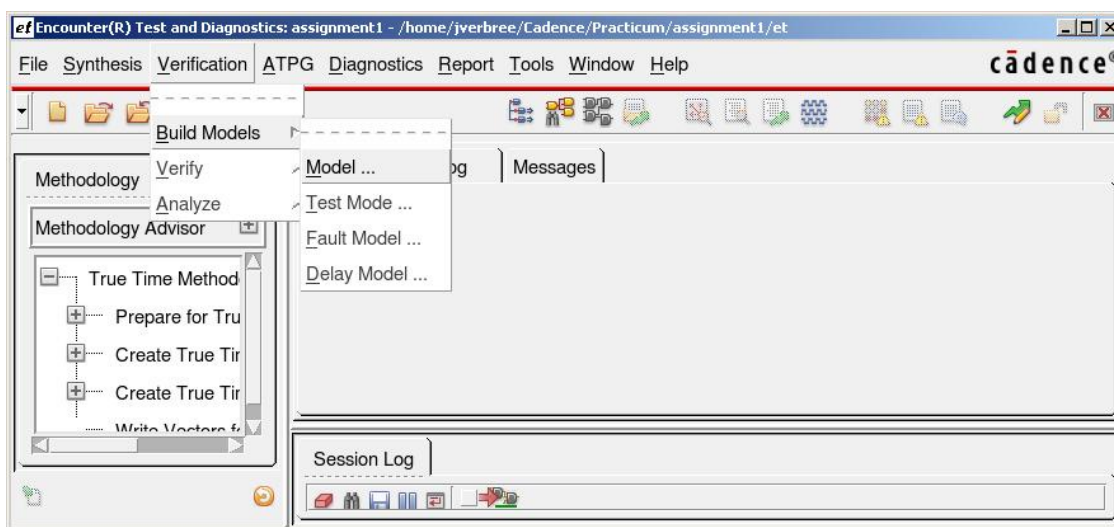

Figure 6: ET Screenshot, Verification → Build Models
All these steps can be performed using the “Build Models” menu depicted in Figure 6. (ET_models_10.1.pdf, p23-25).
2. Use the “Verification → Build Models → Test Model” menu (see Figure 6) to specify the synthesized netlist and cell-library; browse to select the desired netlist. Before hitting “run”, push the “setup” button and select the simplified cell-library “fsd0a_a_generic_core_30_tud.lib.v” in the new windows, hit “. Read also the Model Guide (file: “ET_models_10.1.pdf”, pages 23-30).